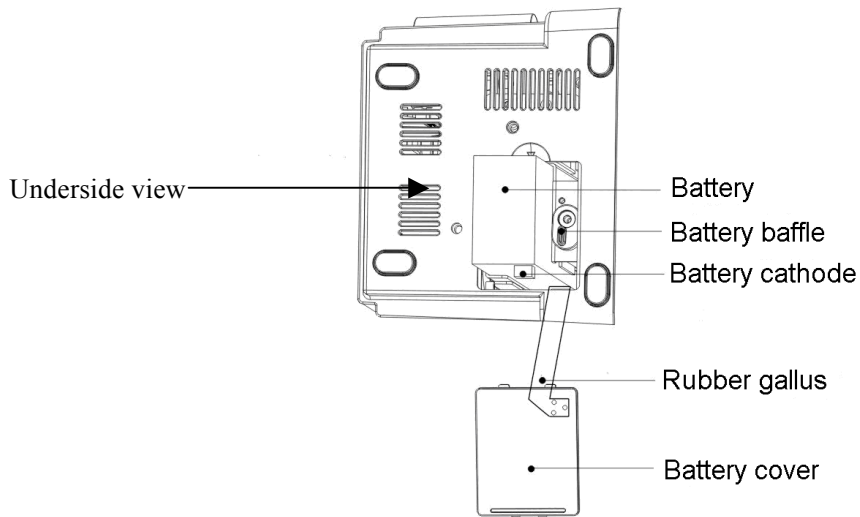

Figure 3.11 Battery Installation
2. Open the battery cover and place the battery in the direction as shown in Fig. 3.11 to insert the battery into any one of battery compartments. Do not insert battery with their polarities reversed.